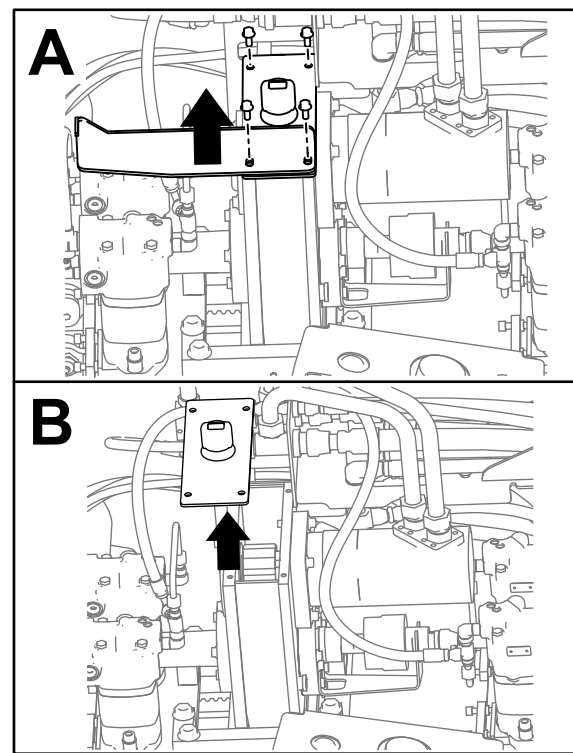

Figure 135
3. Remove the 4 bolts on the guard plate and gearbox (Box A of Figure 135).
4. Remove the guard plate (Box A of Figure 135).
5. Remove the cover on the gearbox and syphon the oil out (Box B of Figure 135).
9. Place the guard back into place and install the 2 bolts (Box A of Figure 135).
10. Install the 2 other bolts securing the lid onto the gearbox (Box A of Figure 135).